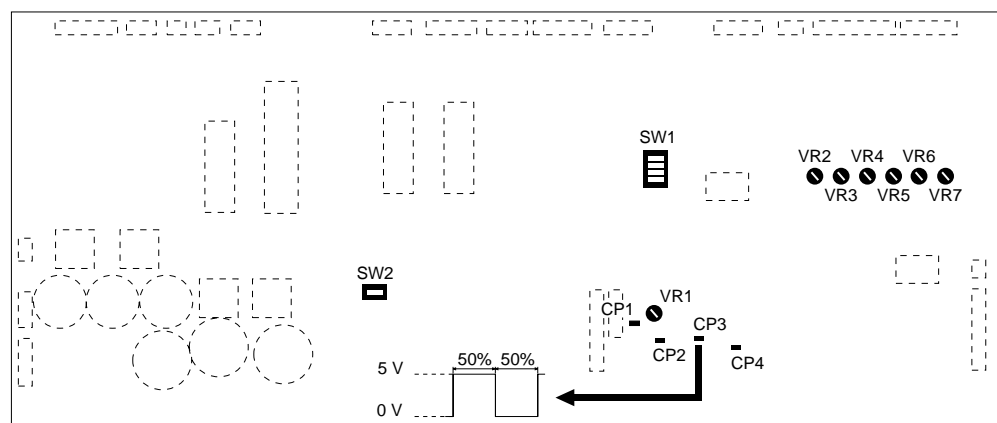

Figure 5-9
4. Connect the oscilloscope to check point CP3 and CP2 (GND) on CONTROL PCB ASSEMBLY. Refer to **Figure 5-9**.